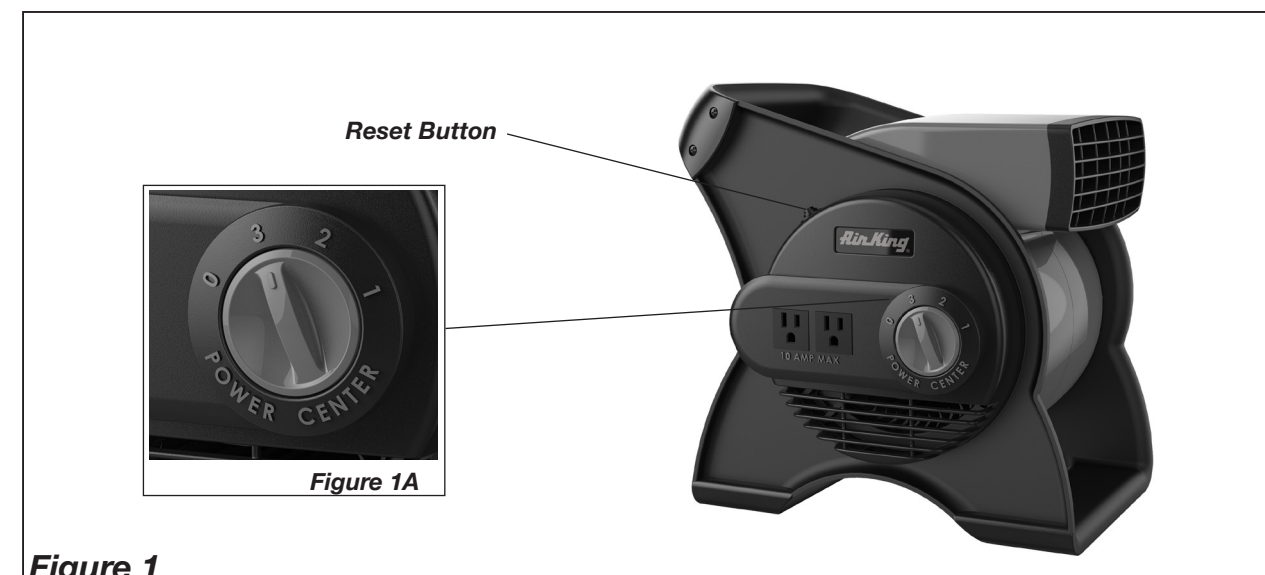

Figure 1
5. To adjust the angle of the Fan air flow, rotate the Fan body forward or backward to the desired position. (**Figure 1**)
6. To turn the Fan OFF, turn the **Power Knob** to OFF (0) and unplug the unit from the electrical outlet.